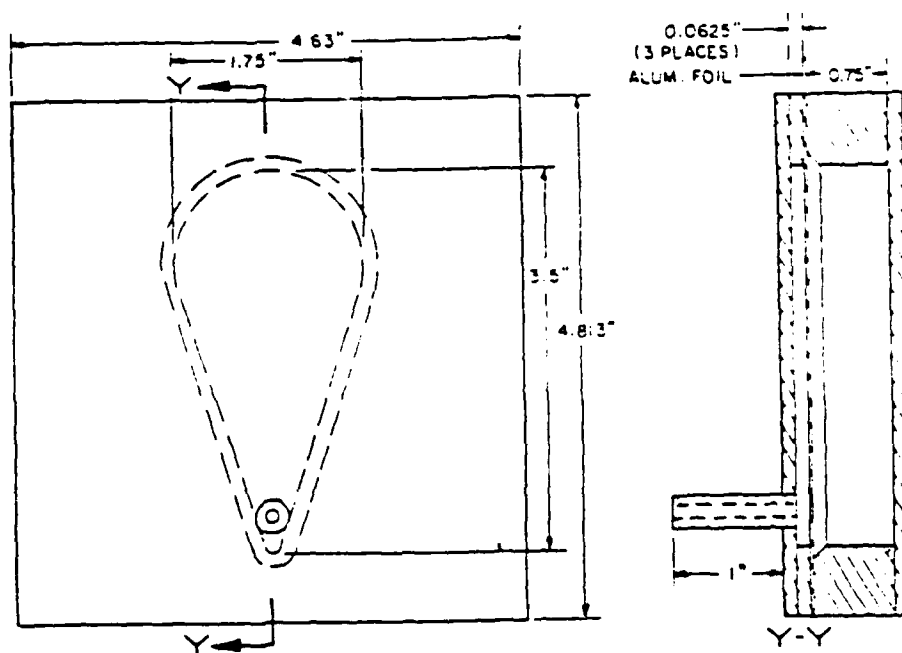
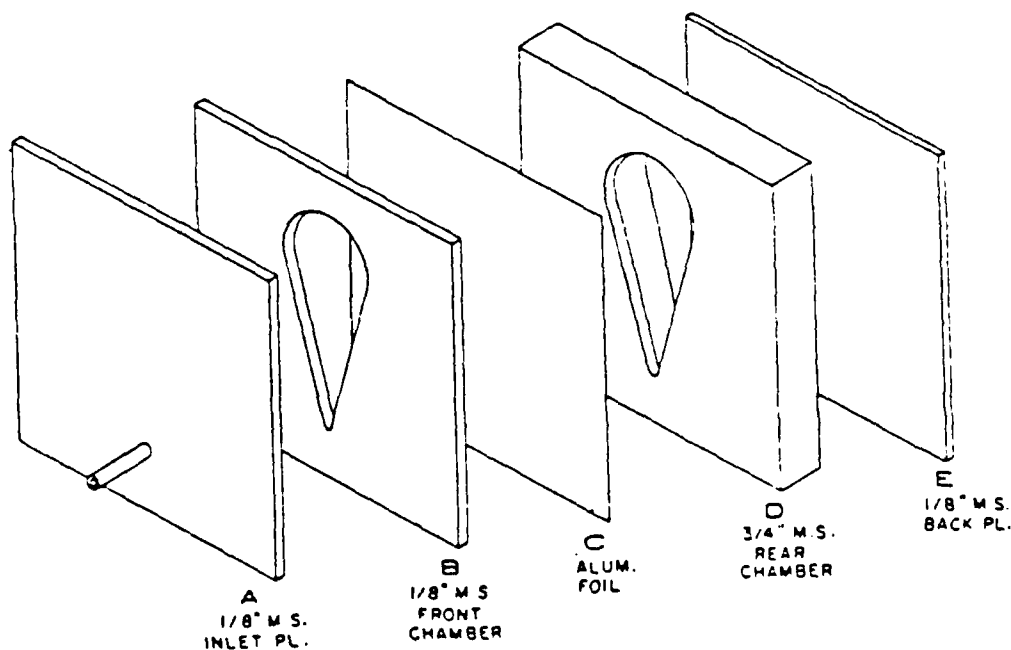
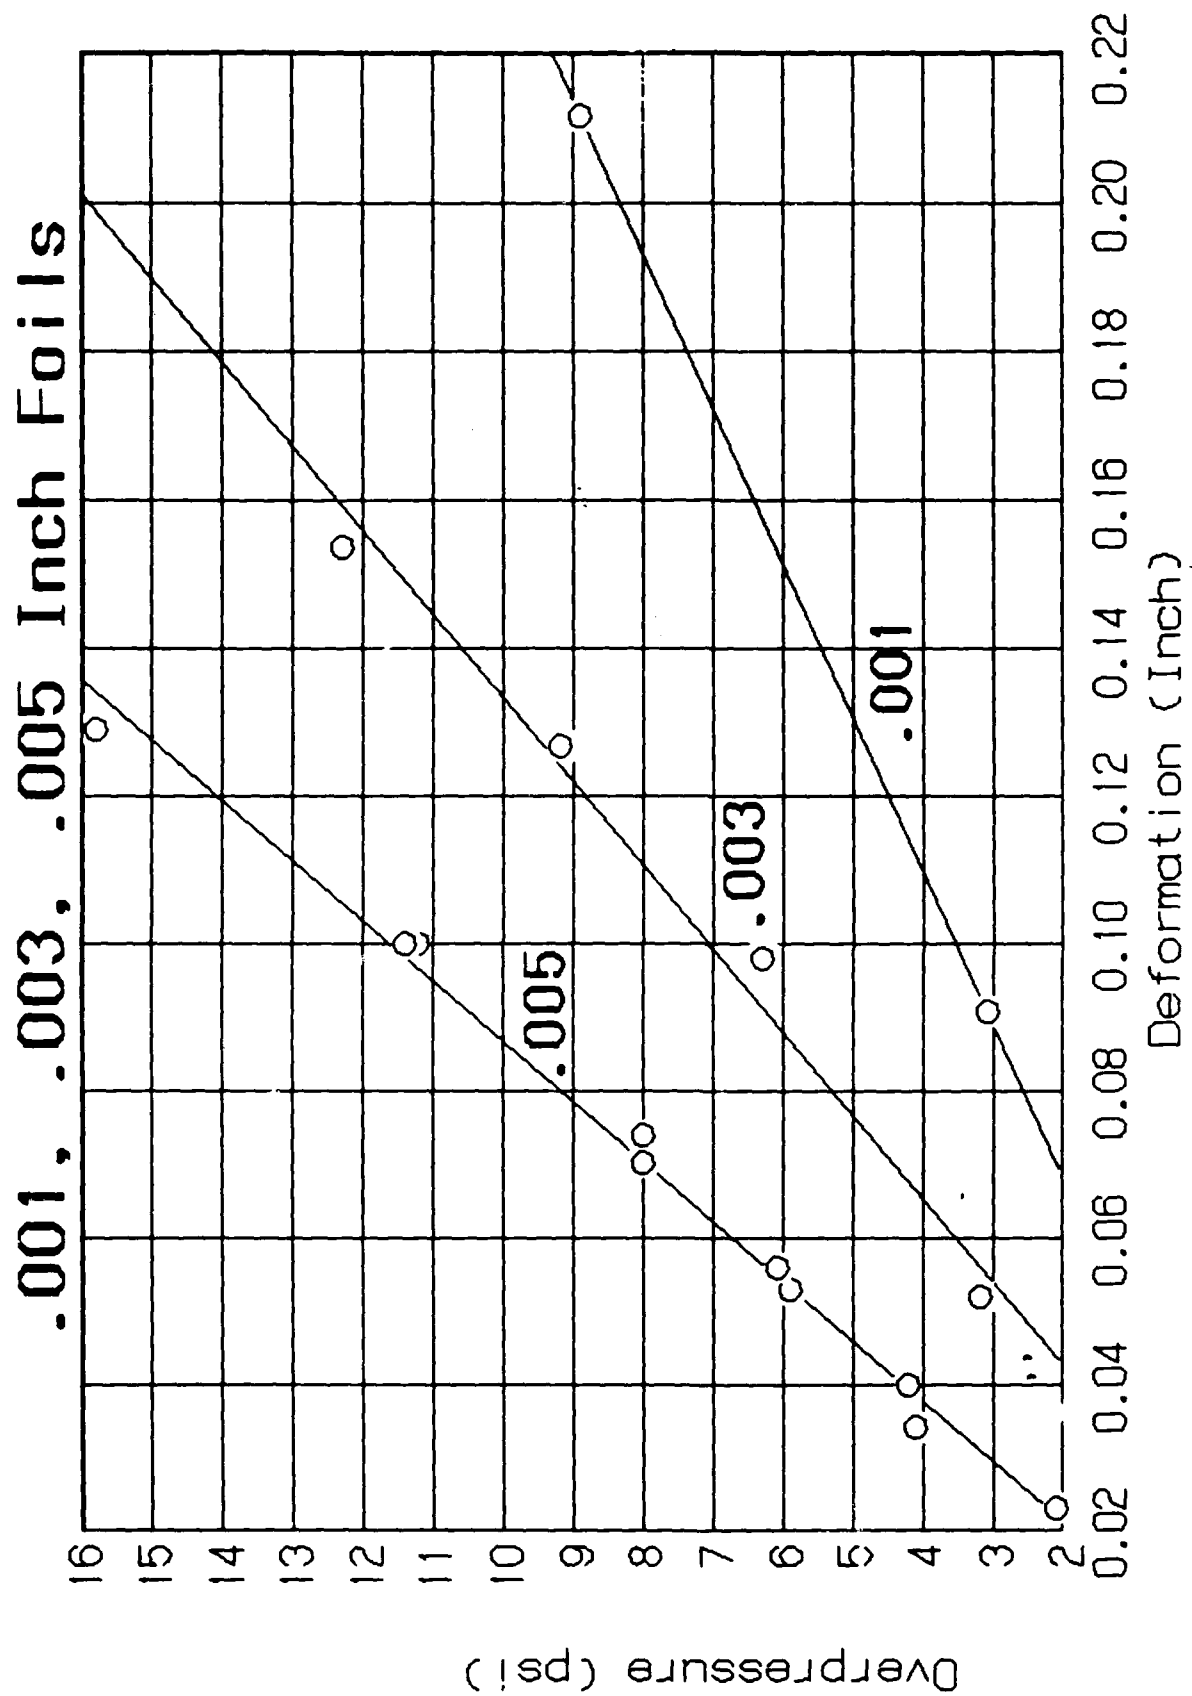

Figure 12. End View--Quasistatic Diaphragm Pressure Gage (QS-DPG) .
Figure 13. (U) Construction Plan View of the Quasistatic Diaphragm Pressure Gage (QS-DPG) .
Figure 14. (U) CORRELATION CURVE QS-DPG
- Figure 12. Construction plan with end view of the quasi-static diaphragm pressure gage (QSDPG) 18
- Figure 13. Diagram showing placement of foil in the quasi-static diaphragm pressure gage (QSDPG) 18
- Figure 14. Correlation curves for .001-in., .003-in., and .005-in. foil: Overpressure (PSI) correlated with deformation (inch) for quasi-static overpressure measures . 19
The Ballistics Research Laboratory (BRL) at Aberdeen Proving Ground (APG) has developed two diaphragm pressure gages for use in measuring shock and quasi-static overpressure during severe test conditions. Plans for the construction of a Non-Discrete Diaphragm Pressure Gage (NDDPG) from 1/8-in. and 3/4-in. mild steel and calibrated aluminum foil are presented (Figures 1 and 2), along with calibration curves developed for use with a range of expected shock overpressure values and foil thicknesses (Figures 3-11). Plans for the construction of a Quasi-Static Diaphragm Pressure Gage (QSDPG) from 1/8-in. and 3/4-in. mild steel and calibrated aluminum foil are presented (Figures 12 and 13), along with calibration curves developed for use with a range of expected quasi-static overpressure values and foil thicknesses (Figure 14).
3.1 Selection of Foil. An estimate of expected maximum overpressure determines the appropriate foil thickness. Using previous experimental data, estimate an expected maximum overpressure. Select a calibration curve (Figure 14) that incorporates an overpressure range approximately 10 to 25 percent greater than the estimate. Install the foil correlated with the chosen calibration curve. Please note that any new foil must be pure, annealed aluminum and must be calibrated before using (1).
3.2 Installation of Foil. The appropriate thickness of foil is sandwiched between the pressure gage front and rear chambers (see Figure 12, end view, and Figure 13 for details). Remove the cover plate, which is distinguishable from the back plate by a one-inch shock attenuation pipe. Place Silastic 732RTV adhesive/sealant (or equivalent) on the top of the rear chamber plate. Attach the foil with the sealant, centering it over the chamber. When marking the foil with thickness information, test number, etc., use a permanent marker on a surface away from the exposed area of the foil. Place the cover plate over the foil, using no sealant; using a sharp instrument such as an awl or an ice pick, punch holes in the foil to align with the screw holes in the cover plate. Replace the screws, attaching the cover plate.
3.7 Peak Quasi-Static Overpressure Values. Determining peak overpressure value for a given blast requires the use of an appropriate calibration curve. With reference to Figure 14, use the curve labeled with the corresponding thickness of foil used.